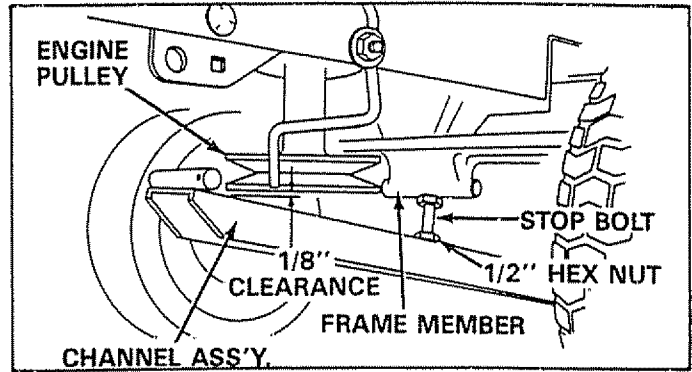

FIGURE 8
- Adjust 1/2 x 2-1/4" stop bolt, previously assembled into channel assembly (step 2). See figure 8. Adjust hex nuts, above and below channel to provide approximately 1/8" clearance between channel and the tractor engine pulley with the stop bolt positioned against frame member. See figure 8.